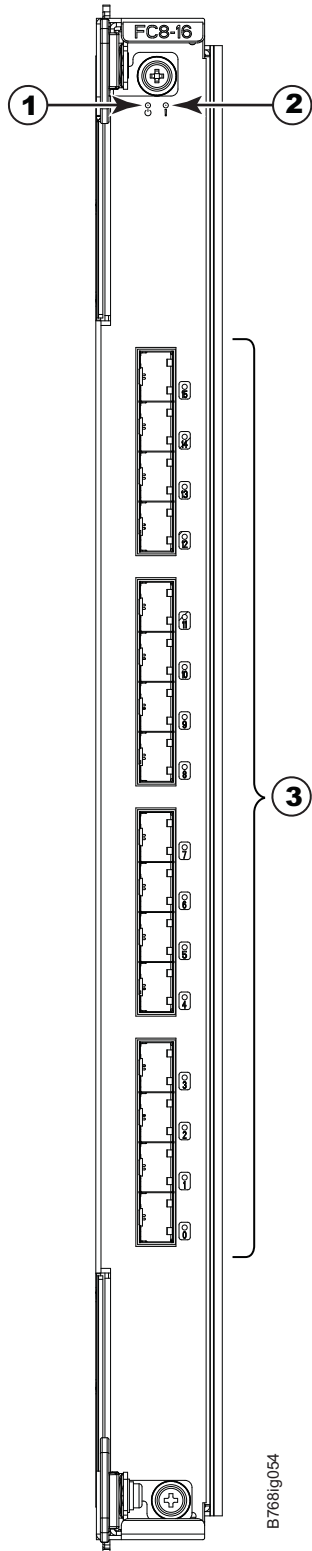

Figure 50. FC8-16 port blade
- Figure 50 on page 148 shows an FC8-16 port blade